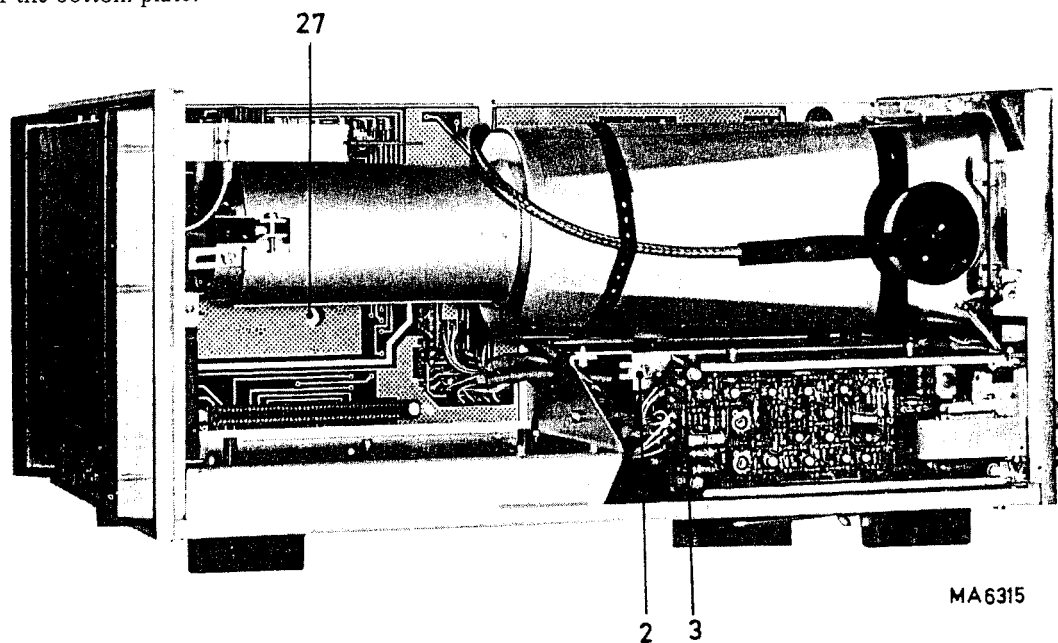

Fig. 32. Dismantling; left-hand side view
E. REMOVING PRE-AMPLIFIER UNIT 1 (Fig. 32)
(Figs. 32 & 42)
(Figs. 32 & 46)